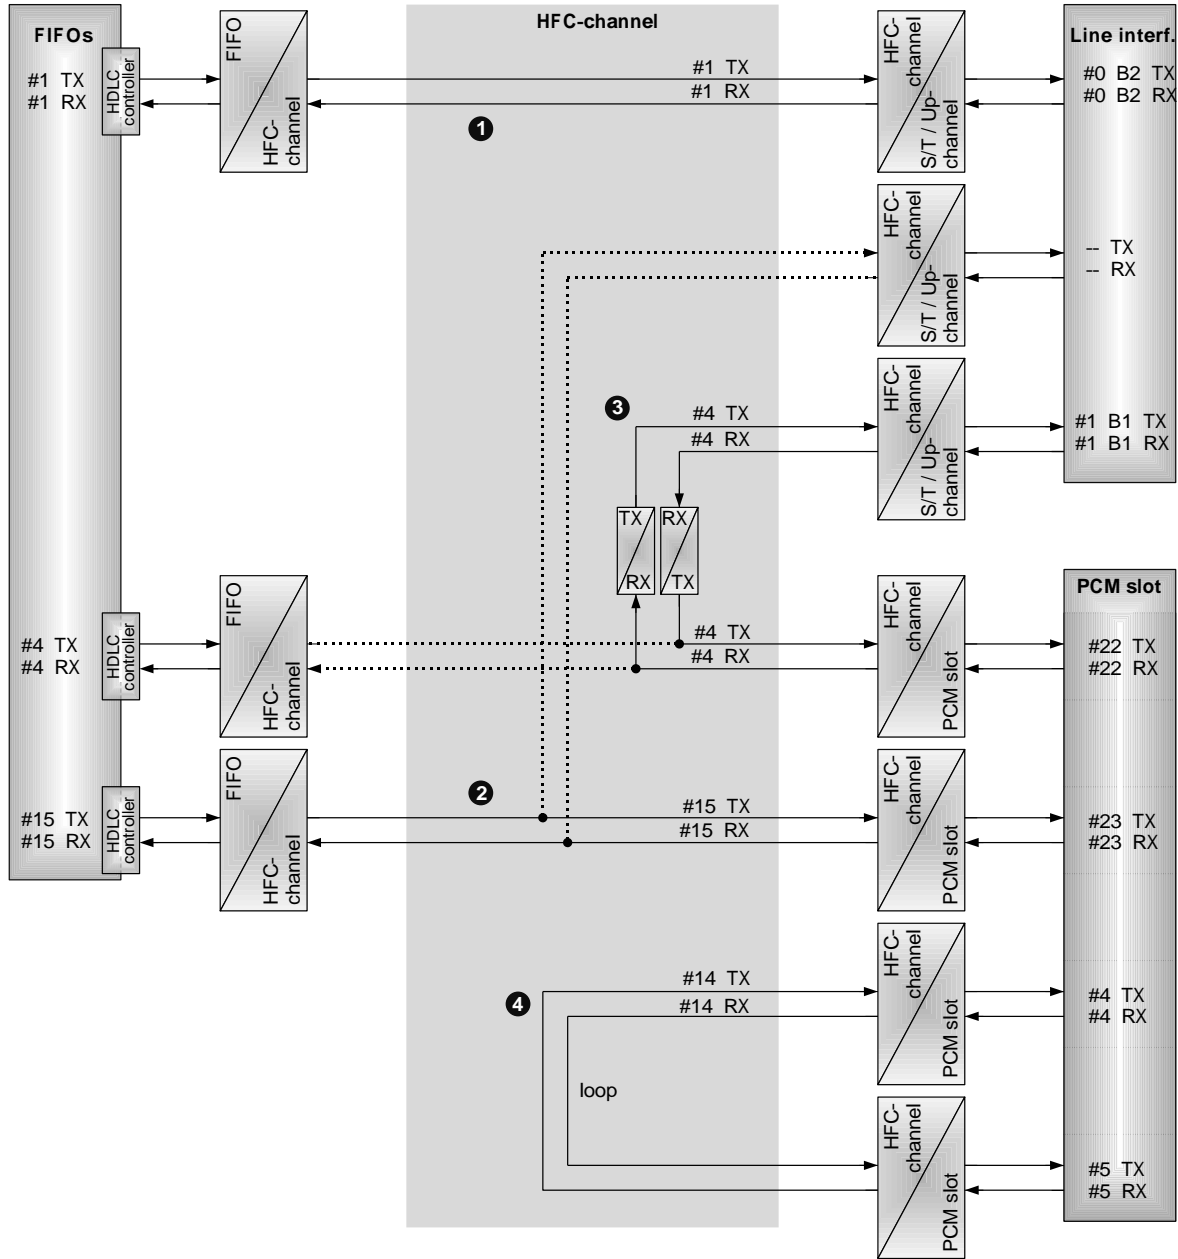

Figure 3.6: SM example
Figure 3.6 shows an example with four bidirectional connections (❶ FIFO-to-ST/Up, ❷ FIFO-to-PCM, ❸ PCM-to-ST/Up and ❹ PCM-to-PCM). The FIFO box on the left side contains the number and direction information of the used FIFOs. The ST/Up and PCM boxes on the right side contain the ST/Up-channels and PCM time slot numbers and directions which are used in this example. Black lines illustrate data paths, whereas dotted lines symbolize blocked resources. These are not used for the data transmission, but they are necessary to enable the settings.
All settings in Figure 3.6 are configured in bidirectional data paths due to typical applications of XHFC-2SU. However, transmit and receive directions are independent from each other and could occur one at a time as well.